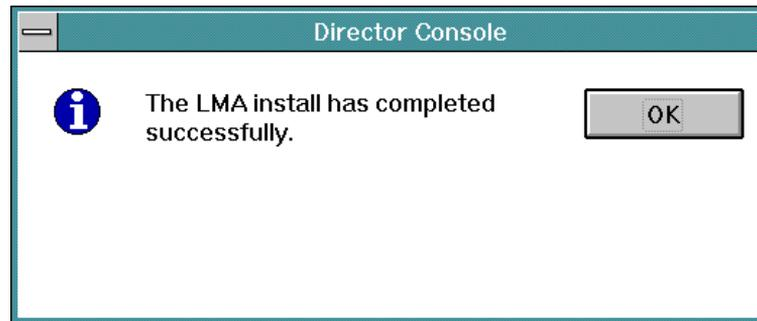

Figure 161. LMA Install Complete Message Box
12. When the LMA install completes, the *LMA Install Status* message box closes and the message box shown in Figure 161 appears.